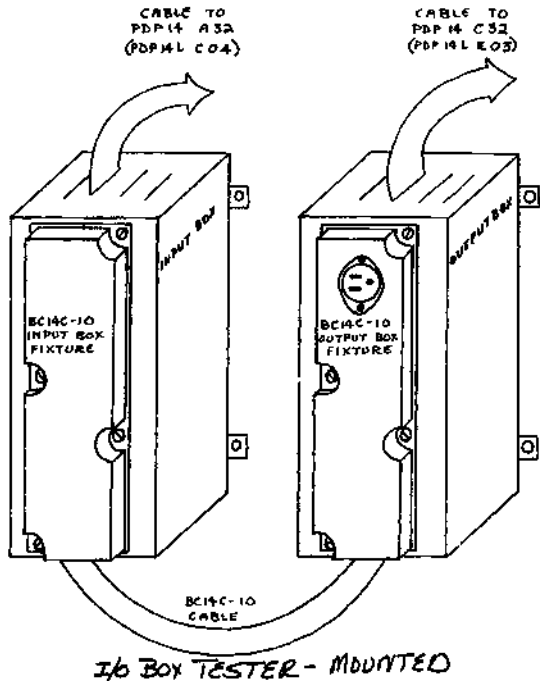

Figure 3-2
The BC14C-10 test unit provides the connections shown in Figure 3-1 by the use of a 17 (10) conductor ribbon and (2) connector assemblies. The BC14C-10 is mounted on the I/O boxes as shown in Figure 3-2.